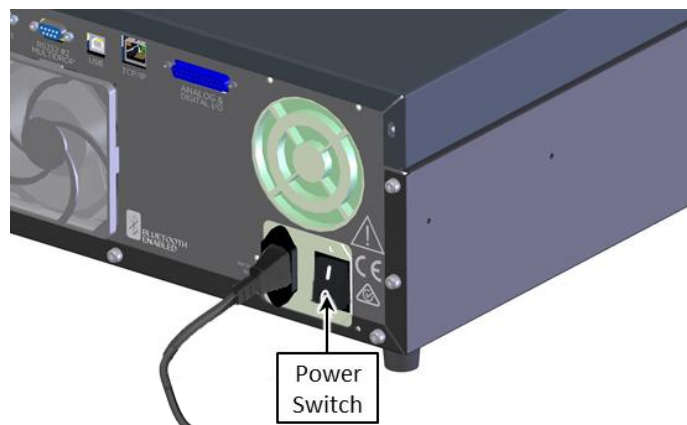

Figure 18 – Turn ON Power Switch
5. Refer to Figure 18. Turn ON the power switch.